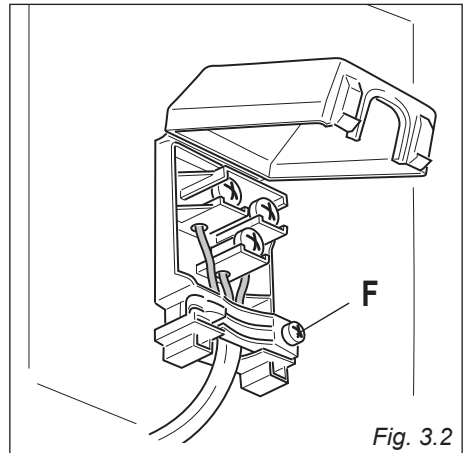

Fig. 3.2
- Open the cable gland by unscrewing screw “F” (fig. 3.2), unscrew the terminal screws.